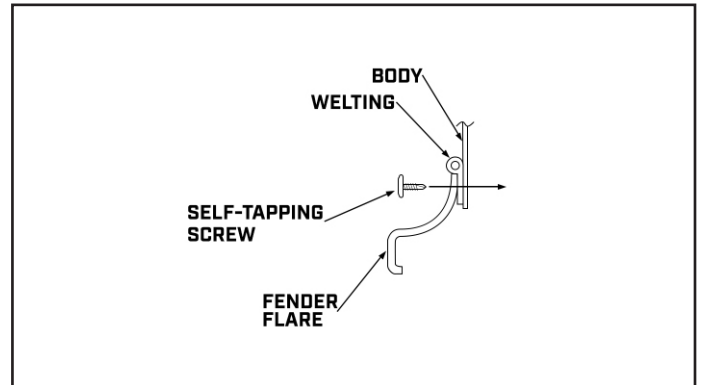

Figure 4
6. Hold the flare up to the body with the welting pinched between the flare and body. (Figure 4) Using the holes cut into the flares as a guide, drill the self tapping screws through the flare, welting and body to mount the flare. We recommend starting from the center of the flare and working your way out to the edges. Pay attention to ensure the flare is aligned well with the body lines and that the top of the flare is level.